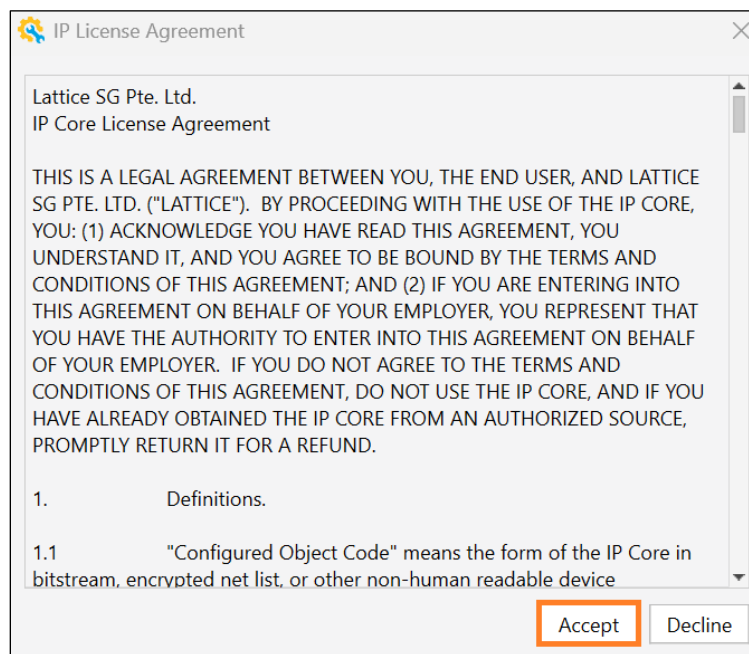

Figure 5.3. IP License Agreement
- d. In the **IP License Agreement** window, click **Accept** to finish the IP installation, as shown in Figure 5.3.